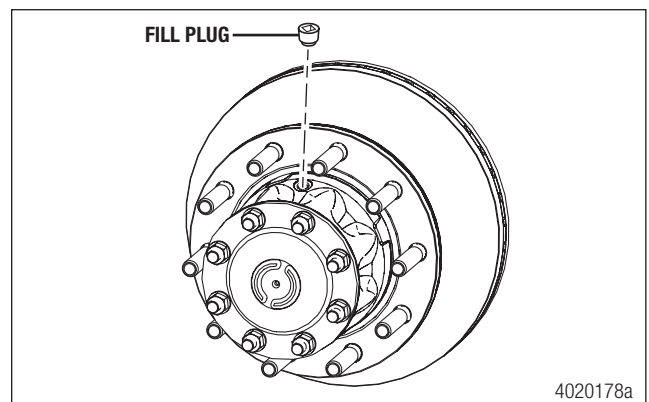

Figure 14
g. If the hub is equipped with a fill plug, rotate the wheel end so the fill plug is facing up. Remove the plug. Add 0.79 quart (0.75 liter) of 75W-90 full-synthetic oil to the hub. Figure 14.